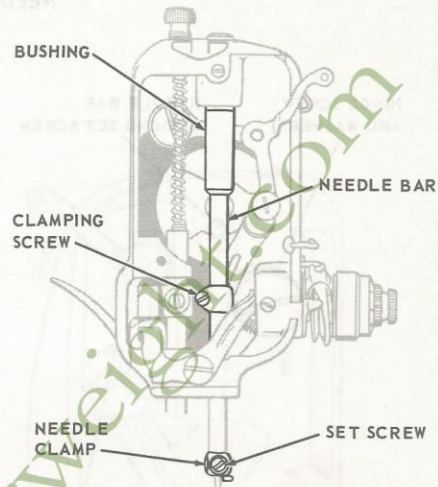

Fig. 27. Removing Needle Bar.
2. Loosen set screw in needle clamp as shown in Fig. 27 and remove clamp.
3. Loosen clamping screw, Fig. 27, and lift needle bar up through bushing and out of machine.
1. Insert needle bar down through bushing shown in Fig. 27.